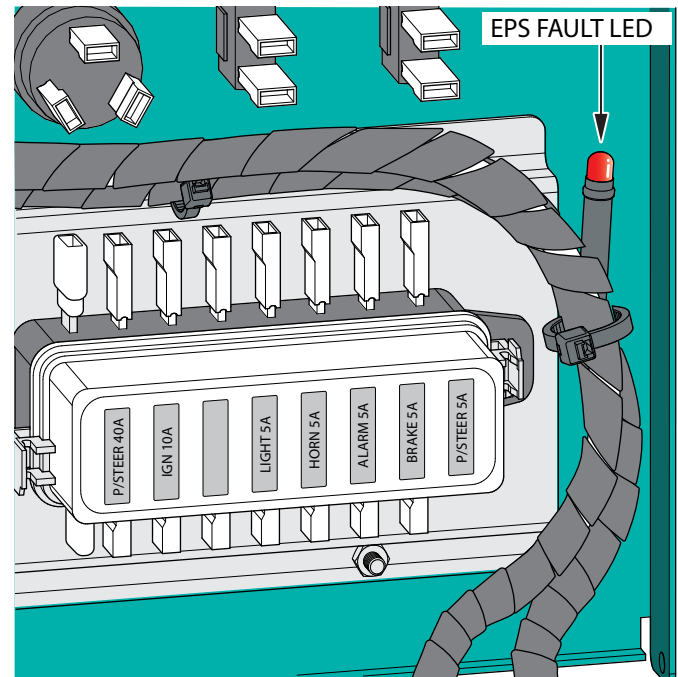

Figure 35. Location of EPS Fault LED
5. In case of failure, the Electric Power Steering (EPS) fault LED of wire harness will flash. Do not turn off the power at that moment, carefully observe the flash times of the fault LED located at the back side of the control panel ( see Figure 35).